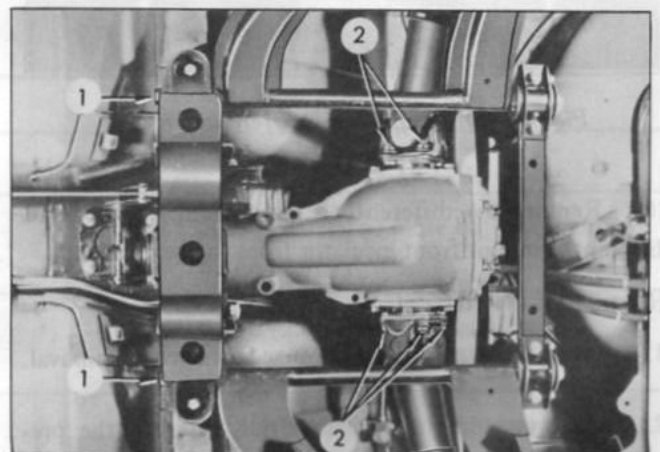

Fig. RA-18 Separating the drive shaft
5. Loosen the front side transverse link inner bolts (1). (Figure RA-18)
6. Remove the drive shaft installation bolts (gear carrier side) (2), and separate the drive shaft from the gear carrier.